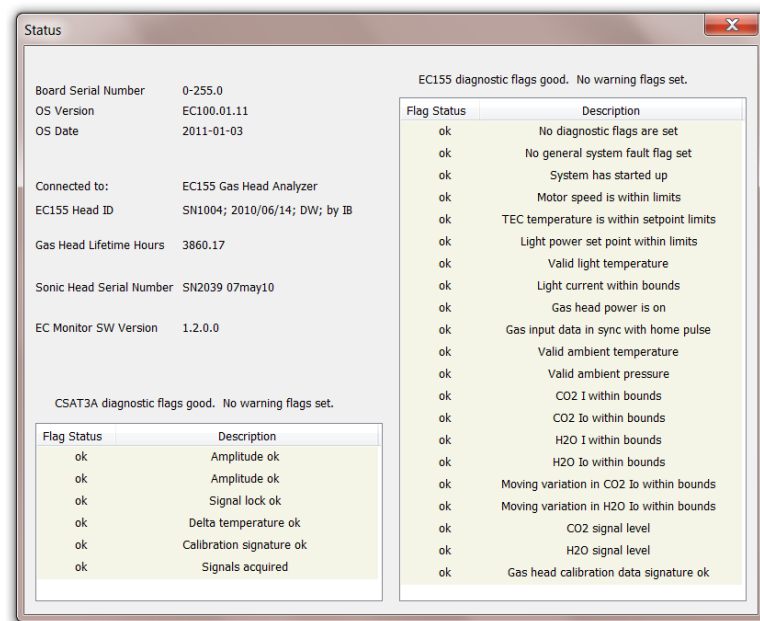

Figure 7-3. The ECMon Status window
- Troubleshooting and monitoring diagnostics using the Status window (see Figure 7-3).